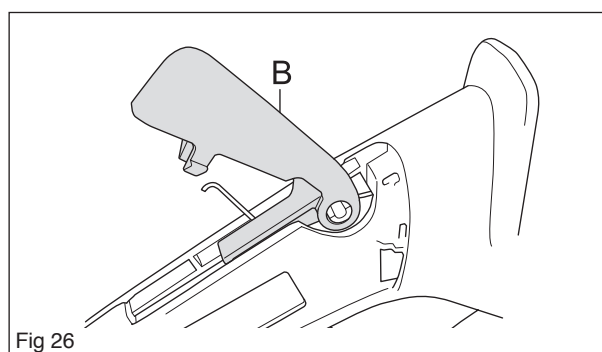

Fig 26
Fit the throttle control lock (B) by sliding it on the shaft in the handle. See figure 26. Make sure the spring is positioned inside the throttle control lock when you press it down so that the barbs are hooked in place.